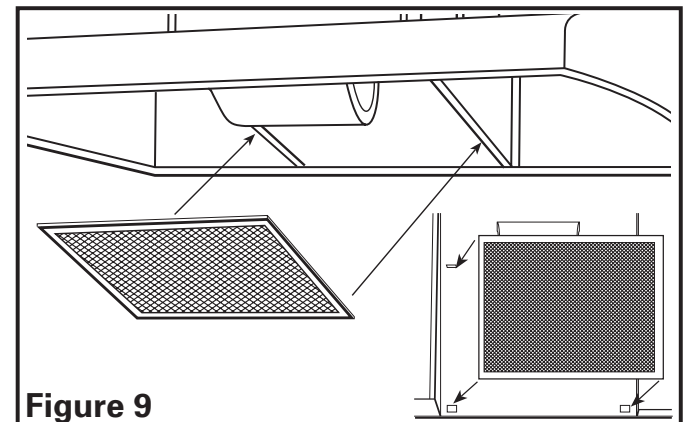

Figure 9
1. Install the appropriate filters, sliding the back side of the filter into the tab and pressing the front of the filter into place (**Figure 9**).